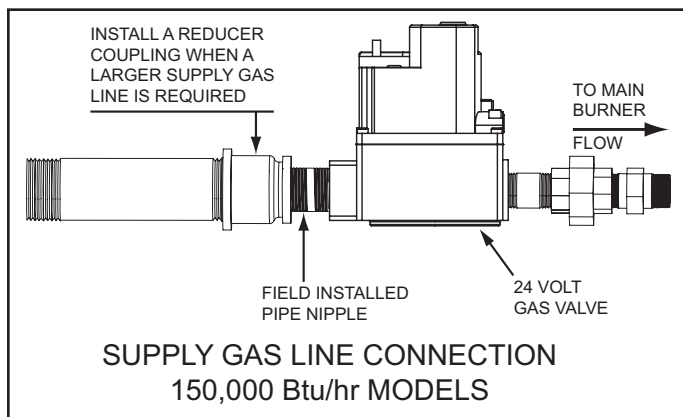

Figure 53
2. Depending on the developed equivalent length and/or the number of appliances connected to a common main, the size of the supply gas line may have to be increased, see Gas Line Sizing on page 39. If the supply gas line must be re-sized larger to accommodate increased supply gas line lengths or multiple appliances use reducer couplings and short pipe nipples to increase the supply gas line as shown in Figure 53.